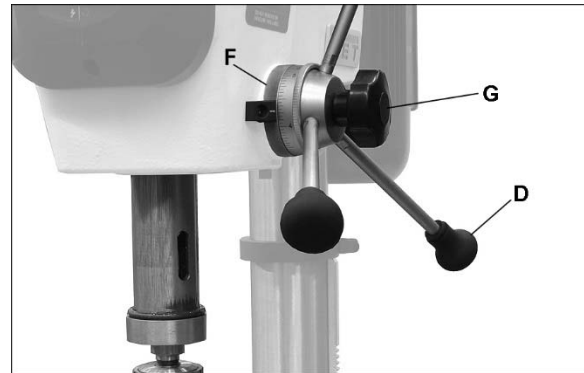

Figure 24
To lock the quill in down position, proceed as follows (Figure 24):
1. Loosen lock handle (G, Figure 24).
2. Rotate downfeed handle (D) to lower spindle to the point at which it is to be locked, and hold downfeed handle stationary in this position.
3. Rotate lock ring (F) *clockwise* all the way until it stops. You should be able to feel and hear when the lock ring reaches the end of its rotation.
4. Tighten lock handle (G). You can now release downfeed handle. The quill will remain in this lowered position until released.
5. To release the quill, loosen lock handle (G).